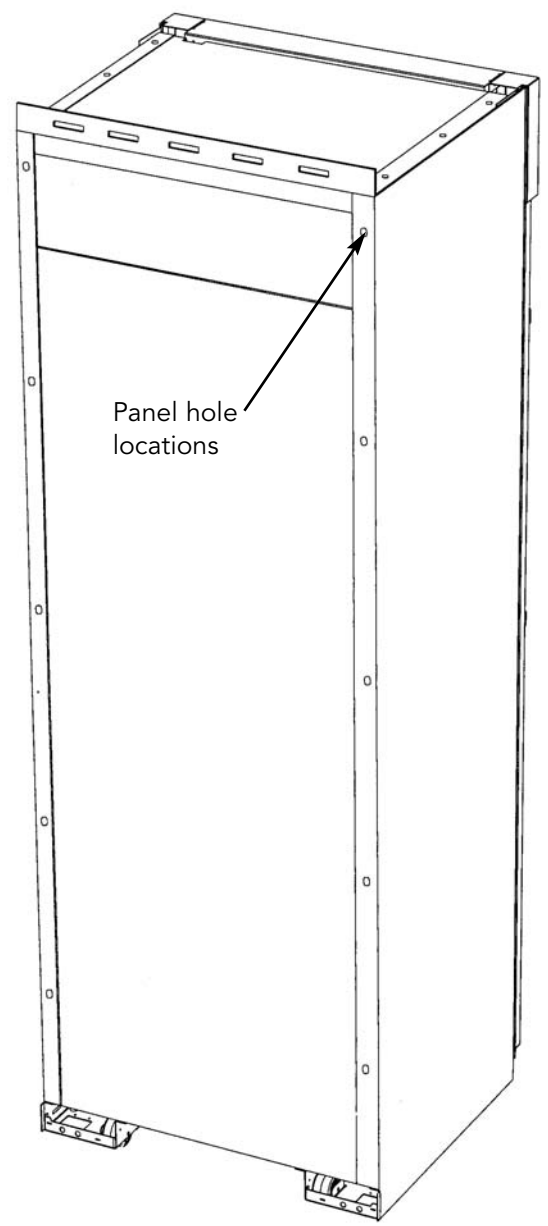

Figure 2
5. Using the panel hole locations as a template, drill five (5) holes on the cabinet rear with a 9/64" (.36cm) diameter drill bit. (figure 2)
6. Attach the panel to the rear of the unit using the five (5) black #8 sheet metal screws provided.